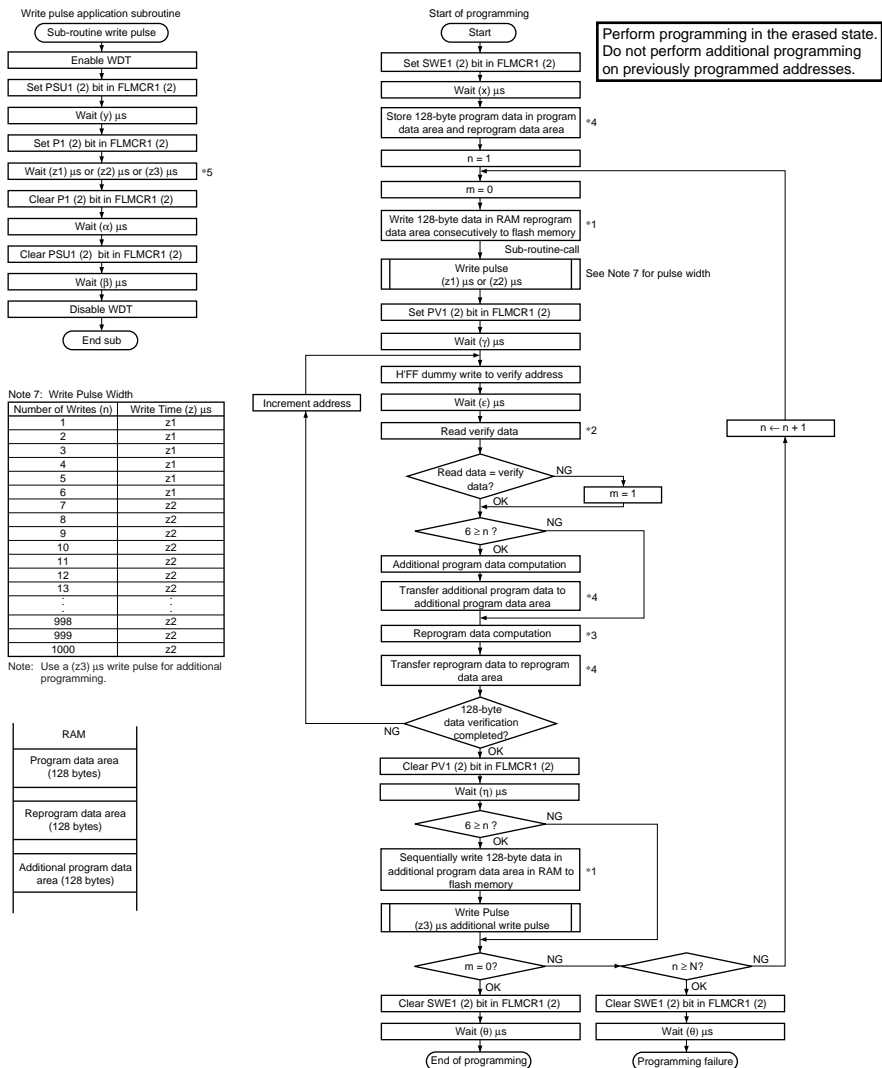

Figure 19-75 Program/Program-Verify Flowchart (Preliminary)
Follow the procedure shown in the program/program-verify flowchart in figure 19-75 to write data or programs to flash memory. Performing program operations according to this flowchart will enable data or programs to be written to flash memory without subjecting the device to voltage stress or sacrificing program data reliability. Programming should be carried out 128 bytes at a time.
After the elapse of a given programming time, the programming mode is exited (the Pn bit in FLMCRn is cleared to 0, then the PSUn bit is cleared to 0 at least $(\alpha) \mu s$ later). Next, the watchdog timer is cleared after the elapse of $(\beta) \mu s$ or more, and the operating mode is switched to program-verify mode by setting the PVn bit in FLMCRn. Before reading in program-verify mode, a dummy write of H'FF data should be made to the addresses to be read. The dummy write should be executed after the elapse of $(\gamma) \mu s$ or more. When the flash memory is read in this state (verify data is read in 16-bit units), the data at the latched address is read. Wait at least $(\epsilon) \mu s$ after the dummy write before performing this read operation. Next, the originally written data is compared with the verify data, and reprogram data is computed (see figure 19-75) and transferred to the reprogram data area. After 128 bytes of data have been verified, exit program-verify mode and wait for at least $(\eta) \mu s$, then clear the SWEn bit in FLMCRn to 0, and wait again for at least $(\theta) \mu s$. If reprogramming is necessary, set program mode again, and repeat the program/program-verify sequence as before. However, ensure that the program/program-verify sequence is not repeated more than (N) times on the same bits.